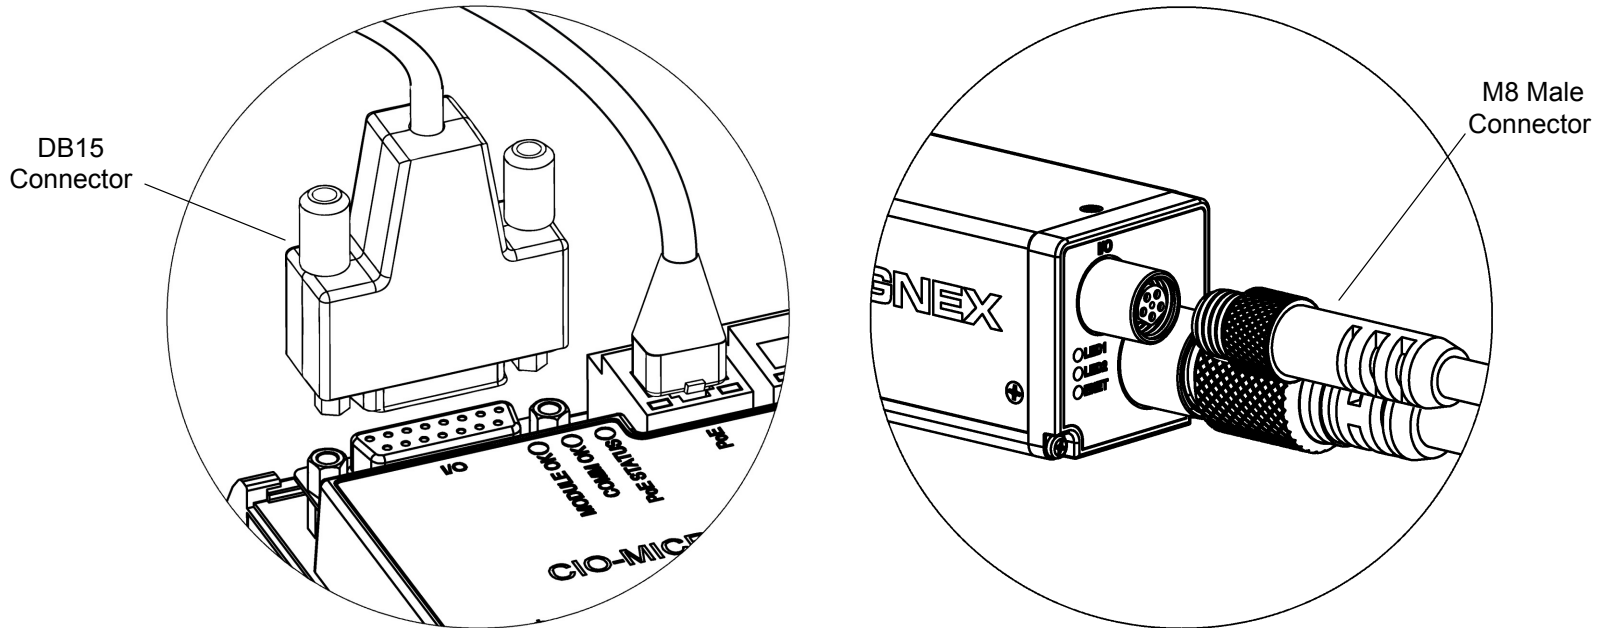

Figure 2-5: Connecting the I/O Cable to the I/O Module
- b. If you want to use the In-Sight Micro vision system's high-speed outputs or trigger, plug the I/O module cable's DB15 connector into the I/O module's I/O port, as shown in Figure 2-5, and connect the I/O module cable's keyed M8 connector into the In-Sight Micro vision system's I/O port, as shown in Figure 2-5.
- b. Plug the I/O module cable's DB15 connector into the I/O module's I/O port, as shown in Figure 2-5, and connect the I/O module cable's keyed female M12 connector into the In-Sight 5600 series vision system's 24VDC port, as shown in Figure 2-5.